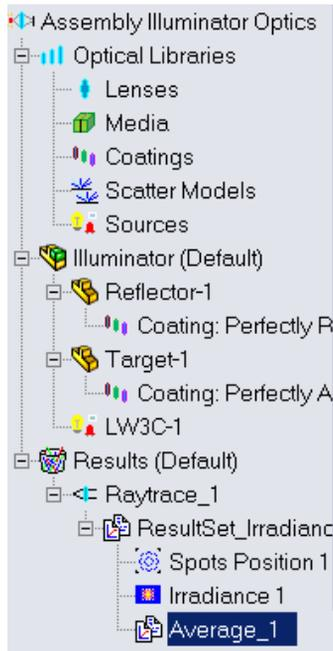

Figure 90 Results node for Average plot
- 14 Click **Average_[*]** on the Optics Manager tree, and click the  tool on the **Analyze** toolbar of the CommandManager. An Average node is now visible on the Optics Manager tree. See Figure 90.